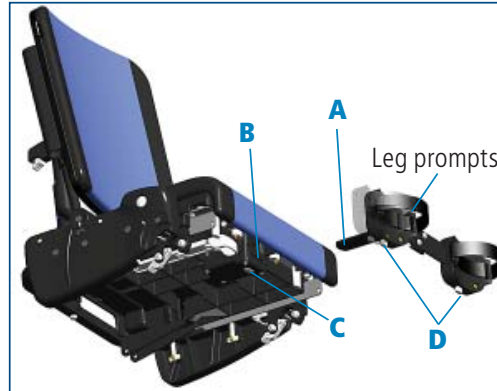

Figure 24a
To install leg prompts, insert leg prompt post (A) into slot (B) centered directly beneath front of seat. Reach below slot and depress leg prompt button (C), in order to insert leg prompt post fully into slot (see Figure 24a).
To adjust width of leg prompts depress white width buttons (D) located on plastic housing behind leg prompt straps. Move leg prompts closer or farther apart then release buttons when desired setting is achieved, making sure prompts click into place (see Figure 24a).